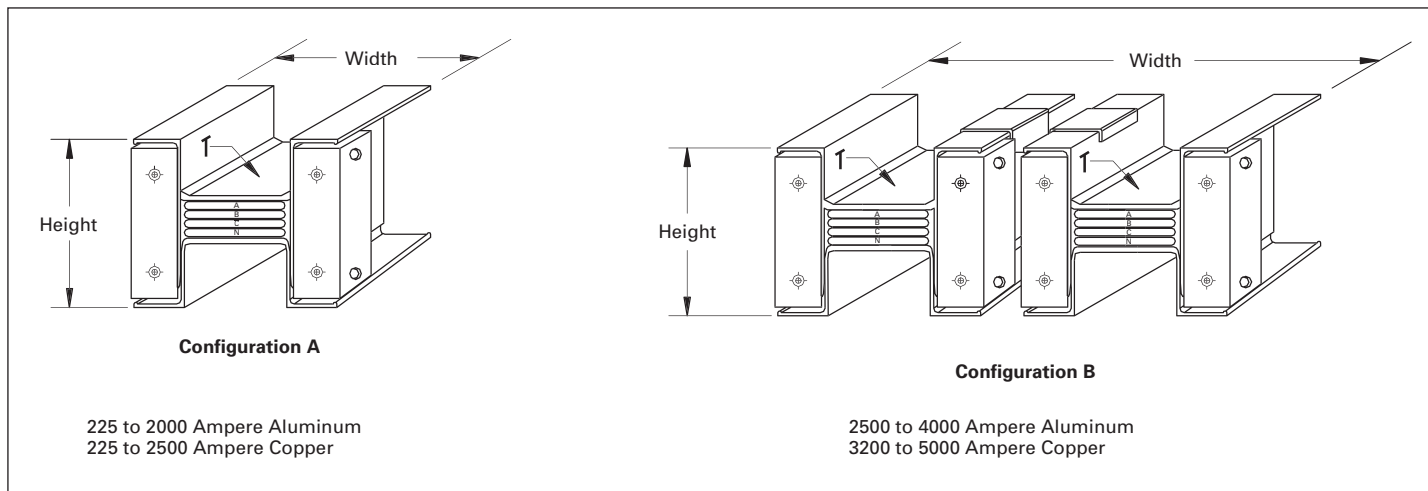

Figure 14. Pow-R-Way III cross-section dimensions
① 100% ground available with same dimensions, which uses 50% internal ground and 50% internal housing ground.
② Refer to **Figure 14** on **page 12** for configuration A and B.
① Neutral bar is 0.50 (12.7) x width shown.
② 100% ground available with same dimensions, which uses 50% internal ground and 50% integral housing ground.
③ Refer to **Figure 14** for Configuration A and B.